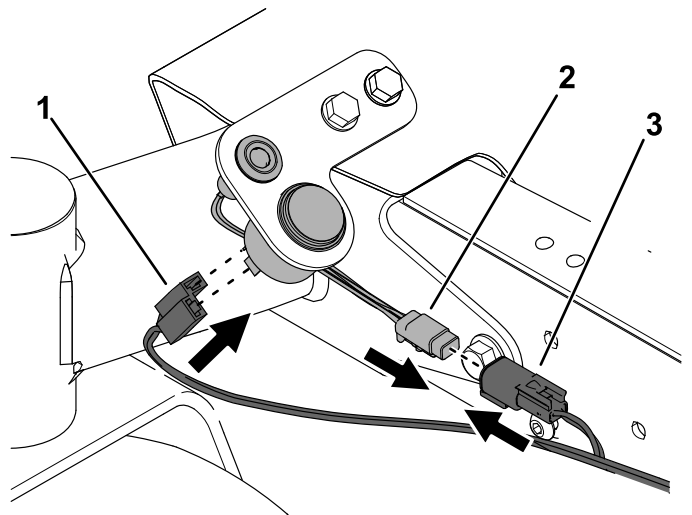

Figure 14
- Connect the light connector to the light and the alarm connector to the alarm (Figure 14).